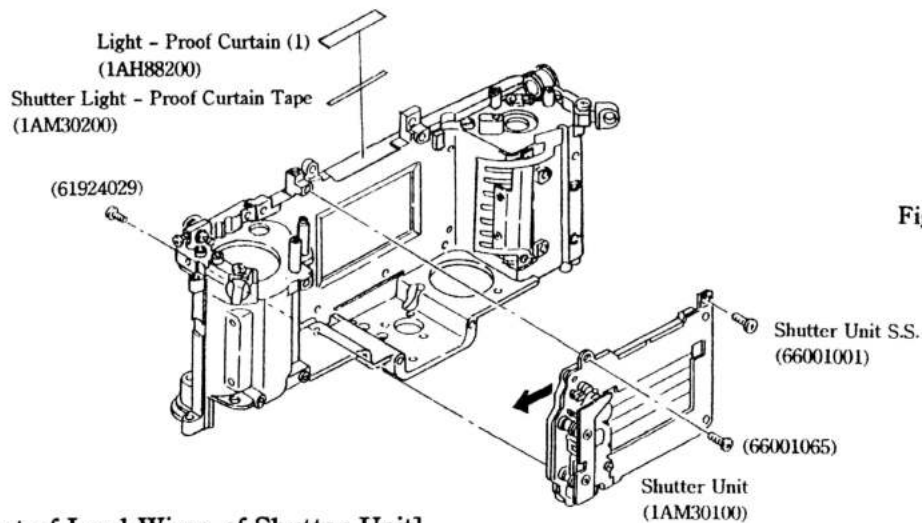

Fig.25
b) The Light - Proof Curtain (1) is attached to the Body with the Shutter Light - Proof Curtain Tape (1AM30200).
c) When installing the Shutter Unit, push the Shutter Unit in the direction of the arrow as shown in Fig. 25 and tighten the Shutter Unit Setscrews.